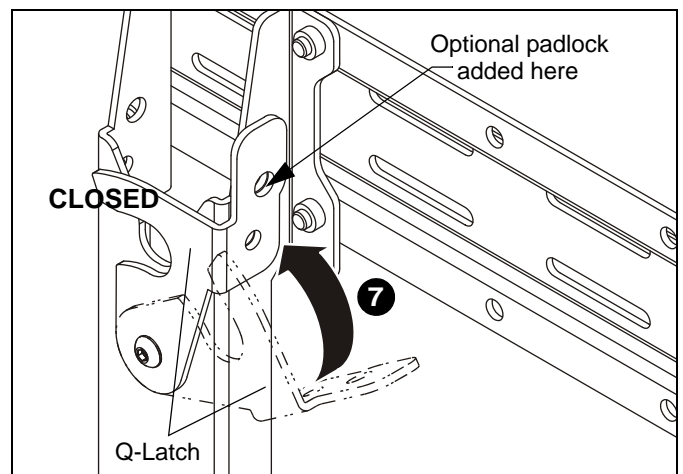

Figure 6
7. Move Q-Latches to Closed position and lock if desired. (See Figure 6)